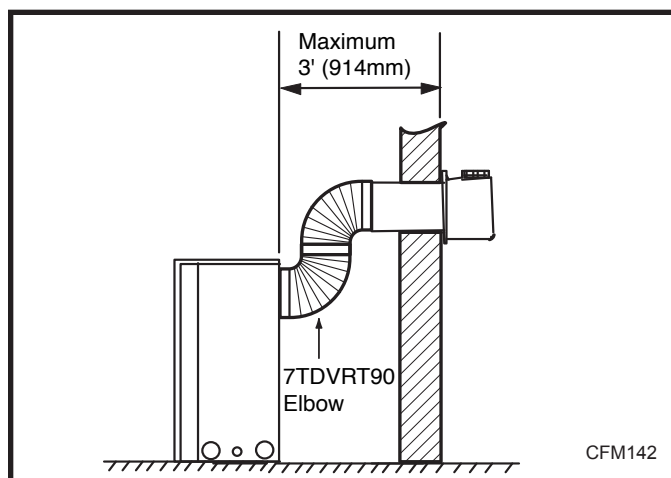
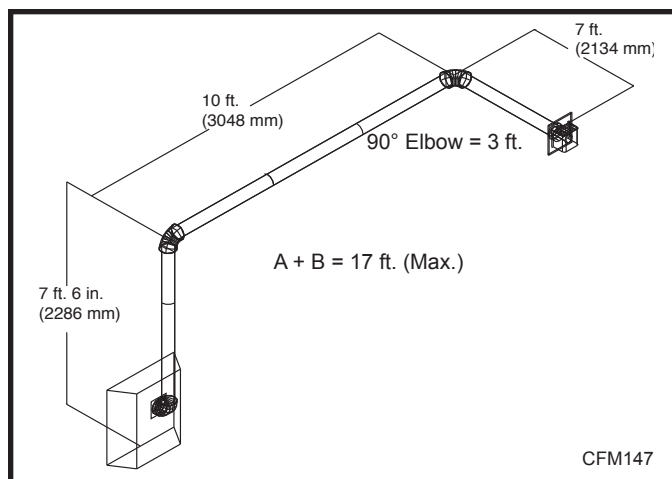

Fig. 24 Maximum horizontal vent run.
Fig. 25 Maximum vent run with elbows.
- If a 90° elbow is used in the horizontal vent run (level height maintained) the maximum horizontal vent length is reduced by 36" (914 mm). (Fig. 24) This does not apply if the 90° elbows are used to increase or redirect a vertical rise. (Fig. 25)
Example: According to the chart the maximum horizontal vent length in a system with a 7.5' (2.3 m) vertical rise is 20' (6 m) and if a 90° elbow is required in the horizontal vent it must be reduced to 17' (5.2 m). In Figure 25 Dimension A plus B must not be greater than 17' (5.2 m).